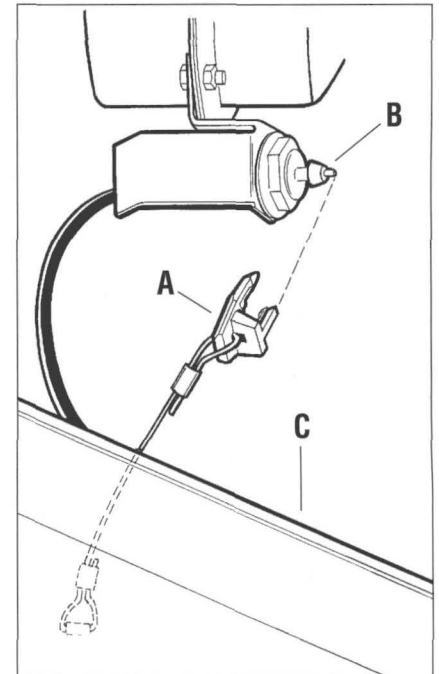

Figure 4-3: Safety Interlock connector (A), switch (B), and attachment (C).
4. Gently but firmly push the three-pronged connector (on end of lanyard extending from attachment) onto the safety interlock switch. (See A and B, Figure 4-3.) The two longer prongs on the connector fit on either side of the switch button housing; the shorter prong depresses the switch button.
2. Disconnect the three-pronged connector (on end of lanyard extending from attachment) – see A, Figure 4-3 – from the safety interlock switch (B).
- 2. Disconnect the three-pronged connector (on end of cord extending from attachment) – see A, Figure 4-3 – from the safety interlock switch (B).**